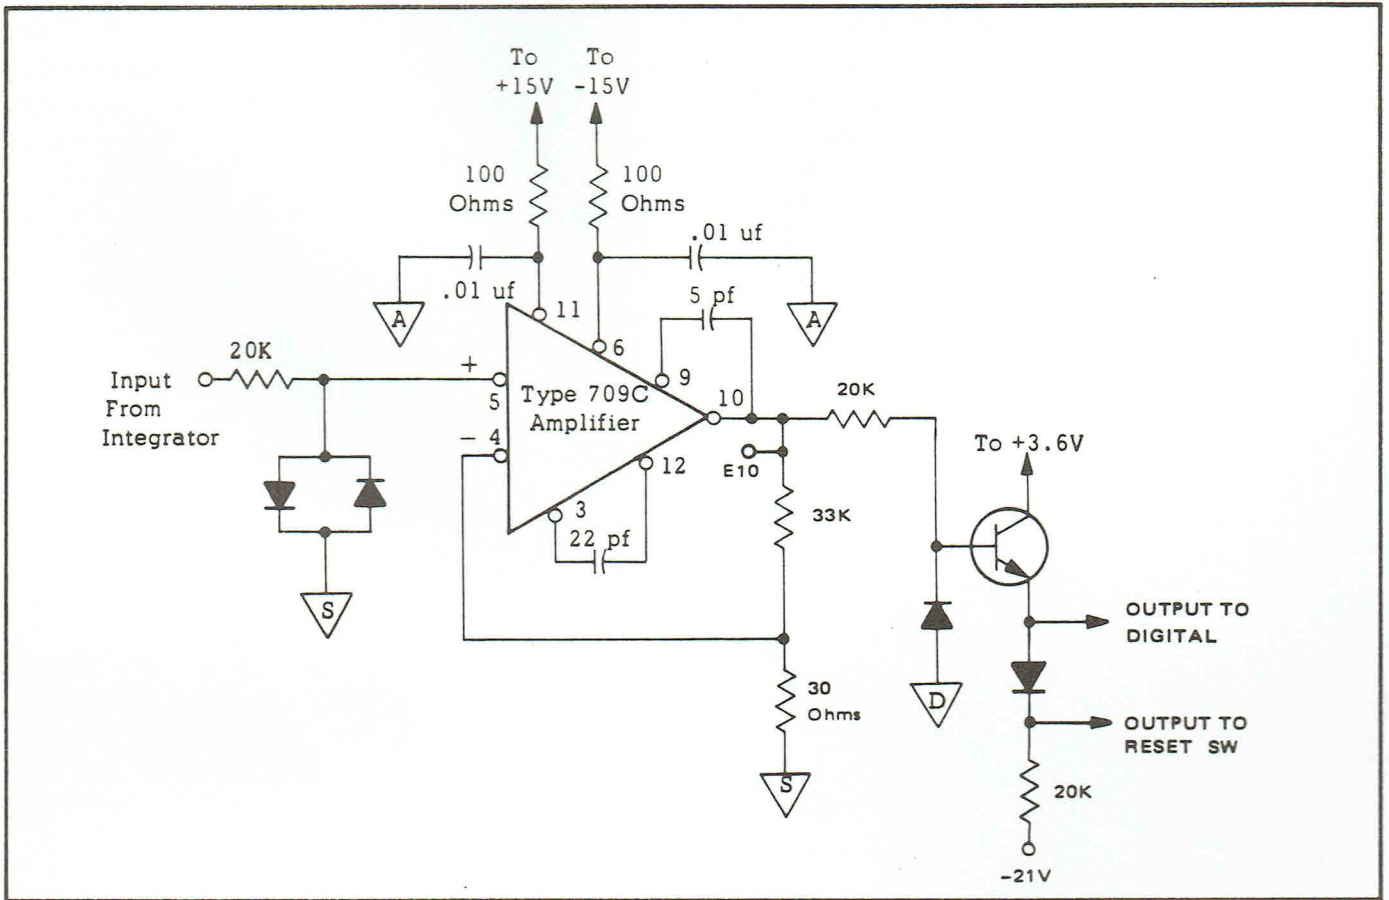

Figure 4.3 - Null Detector
4.17 The Null Detector, shown in figure 4.3, is a high gain non-inverting amplifier used to detect and signal the end of the reference integrate period. The Null Detector is designed around a high-gain differential amplifier. The circuit is of the potentiometric feedback type and has a closed-loop gain of 1100. The 20K resistor in series with the input and the two back-to-back diodes serve to limit the input voltage to the null detector to ± 0.6 volts. The Null Detector has two outputs. One output goes directly to the digital circuits. The second output, a diode drop away from the first output, is applied to the FET Reset switch. The Reset switch is one of four FET switches connected to the input of the Integrator.